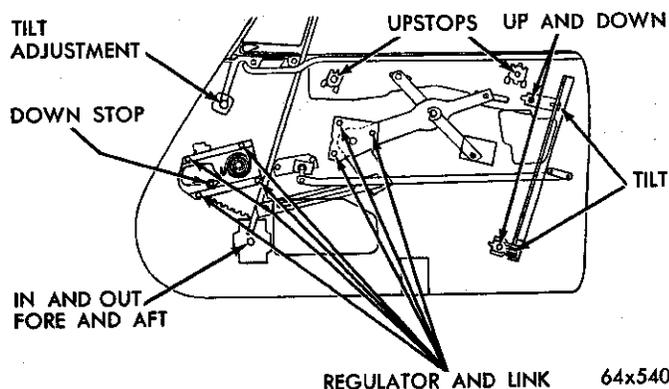

Fig. 15—Door Glass Adjustments (Chrysler)
(7) Adjust the rear guide upper adjustment (Fig. 15) to align the window with the outer edge of the weatherstrip so that only light contact is maintained with the lip of the weatherstrip.
(8) Adjust the rear track (Fig. 15) in and out adjustment to line the glass up while positioning the window glass up against the roof rail weatherstrip.
(9) Adjust the rear track to a forward and rearward position to hold the glass partially snug.
(10) Reposition the regulator pivot to correct the window misalignment as required to fit the roof rail contour.
(11) Reset the upper and lower stops.